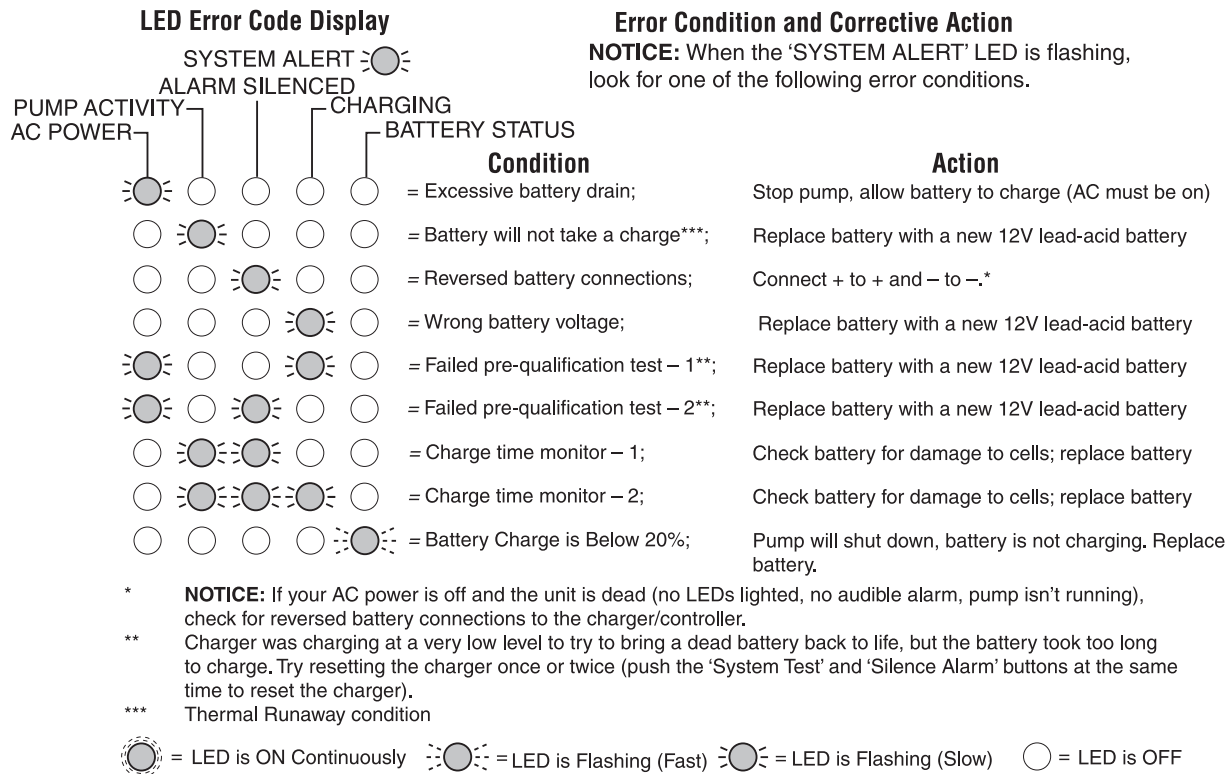

Figure 7: Error Code Displays (LEDs Flashing)
- ◆ When the System Alert light IS flashing, refer to Figure 7.